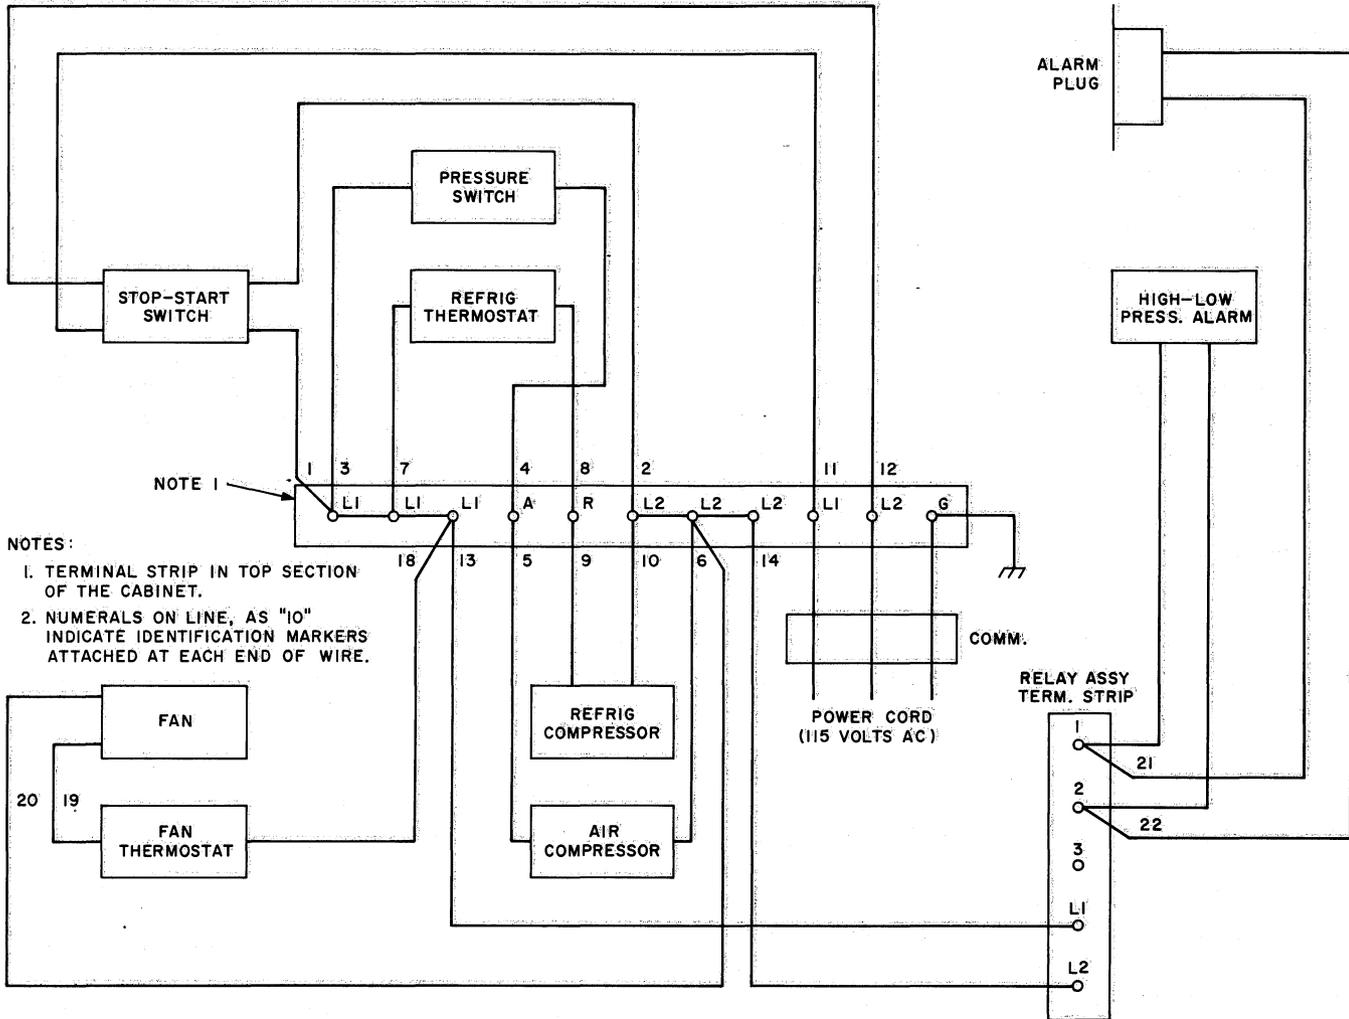

Fig. 2 — Block Diagram of Electrical System
- (1) *Put on rubber gloves.*
- (2) Referring to Fig. 2 and 3, remove wire 21 from 1 binding post on the relay assembly terminal strip. This disconnects the high-low pressure switch from the circuit while the humidity alarm test is being made.
- (3) Connect a KS-8455 Test Set, using the ohmmeter circuit, to 1 and 2 binding posts of the relay assembly terminal strip. A full-scale deflection of the pointer indicates that the humidity alarm relay is operated. Bleed air from the valve on the air pressure regulator until the alarm clears. The alarm should clear within a few minutes.
- (4) If there is no pointer deflection when the connection is made, it indicates either that the alarm has cleared or that it is not functioning properly. Verify for proper operation of the alarm by removing the sensing element from the manifold. This is accomplished by slowly loosening the large hexagon nut on the right-hand side of the instrument panel until
(2) Using an approved ac voltmeter and referring to Fig. 2 and 3, check for 115 volts at the incoming power terminations L1 and L2
(b) Using an approved ac voltmeter and referring to Fig. 2 and 3, check for 115 volts first across the leads of the fan ther-
(b) Using an approved ac voltmeter and referring to Fig. 2 and 3, check for 115 volts at the incoming power terminations L1 and L2 on the power terminal strip. Check for 115 volts through the master stop-start switch by measuring across the L1 and L2